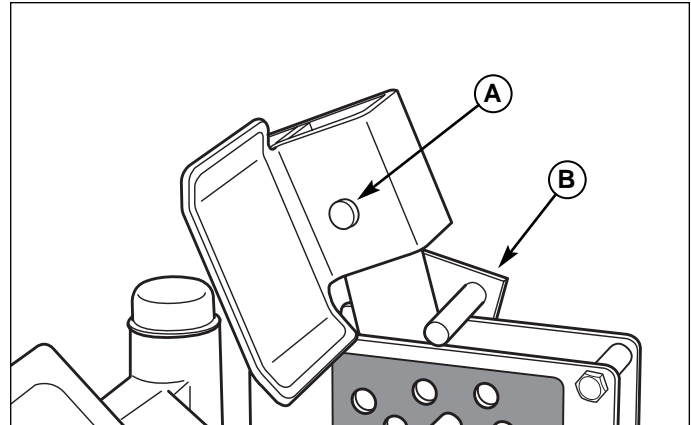

Figure 48. Remove Lift Pedal
2. See Figure 48. Remove the hairpin clip and clevis pin and remove the deck lift foot pedal. Lift the floor plate to gain access to the PTO drive belt.
8. Lower the floor pan and reinstall the deck lift foot pedal, clevis pin and hairpin clip. Make sure the deck lift lock bar is located as shown in Figure 48.